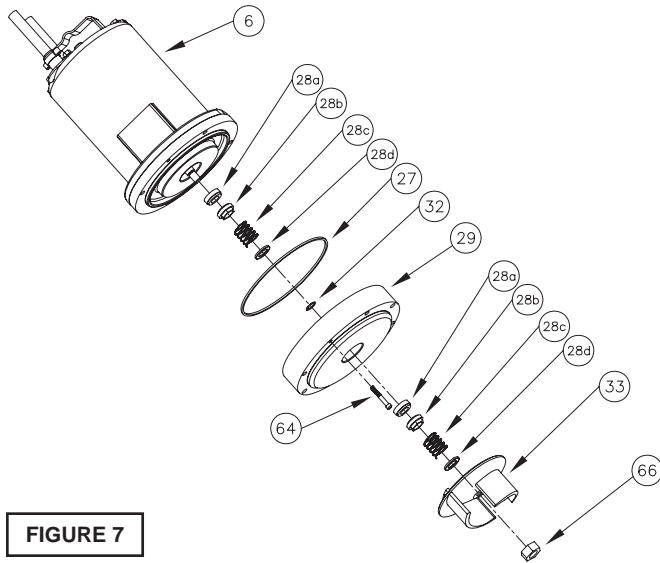

FIGURE 7
To expose inner shaft seal (28) for examination, remove outer seal as outlined above. Remove socket head cap screws (64). Lift outer seal plate (29) and square-ring (27) from inner seal plate (5) see Figure 7. If further repair is required, remove snap ring (32), retaining ring (28d), spring (28c) and rotating member (28b) from shaft. Examine as outlined in outer seal paragraph. If replacing seal, remove stationary (28a) by prying out with flat screwdriver.